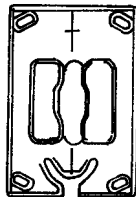

FIGURE 9. Spacer
2.11 Spacer (Figure 9): The spacer adapts the 630A type jacks to wall surface mounting with surface wiring or concealed wiring. The 630A jack mounts on top of the spacer.